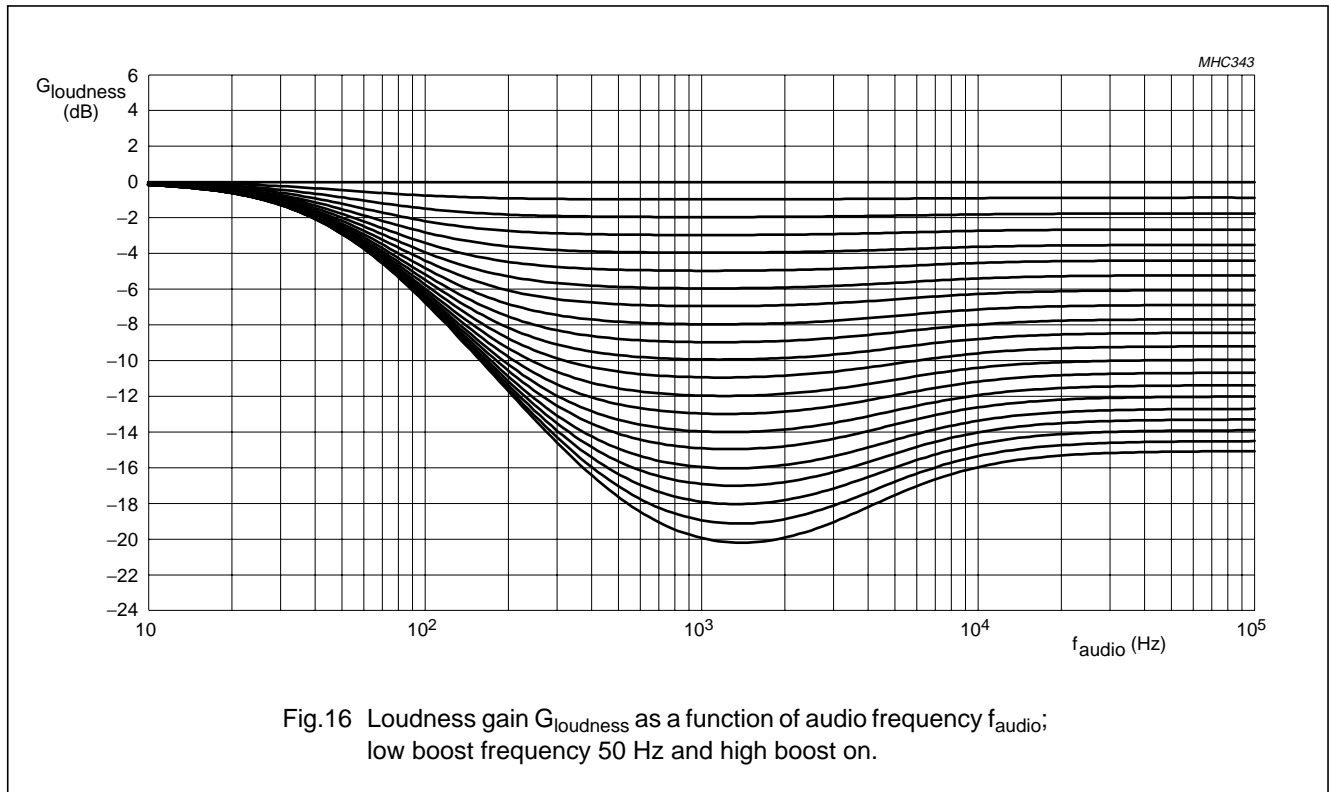

Fig. 16 Loudness gain  $G_{\text{loudness}}$  as a function of audio frequency  $f_{\text{audio}}$ ; low boost frequency 50 Hz and high boost on.
**Table 69** Description of data byte CH, see Figs 16 to 19